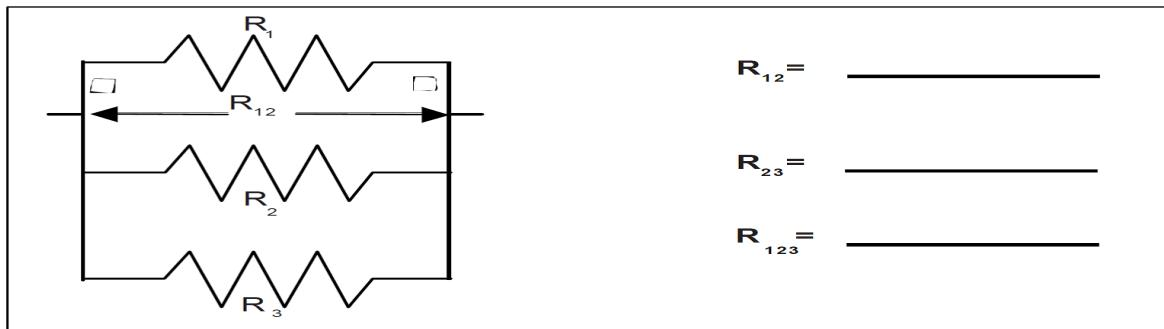

Figure 8: A diagram of the parallel circuit
7. Construct a parallel circuit (as shown in figure 8). Measure the resistances of the combinations as indicated on the diagram by connecting the leads of the multimeter between the points at the ends of the arrows. Record your results in figure 8.